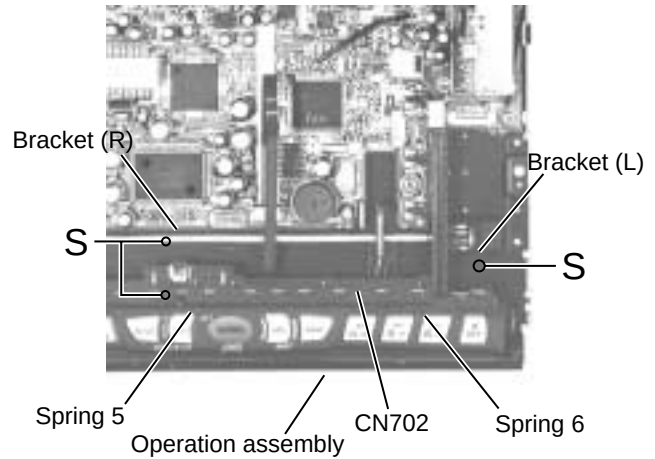

Fig.15
■ Removing the operation assembly (See Fig.15 to 18)